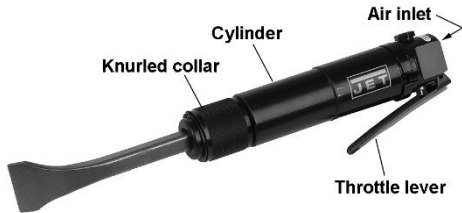

Figure 1
4. Remove protective cap from air inlet (Figure 1). If an in-line oiler is not being used, add 4 or 5 drops of air tool oil (not included) into the air inlet.